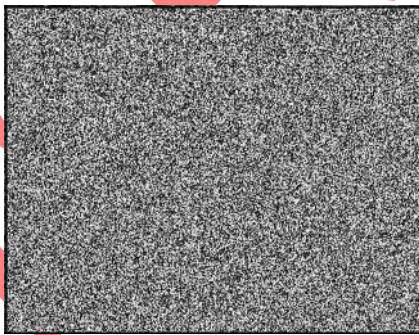

Figure 5
1. Remove breather tube (B, Figure 5) from breather cover (A).